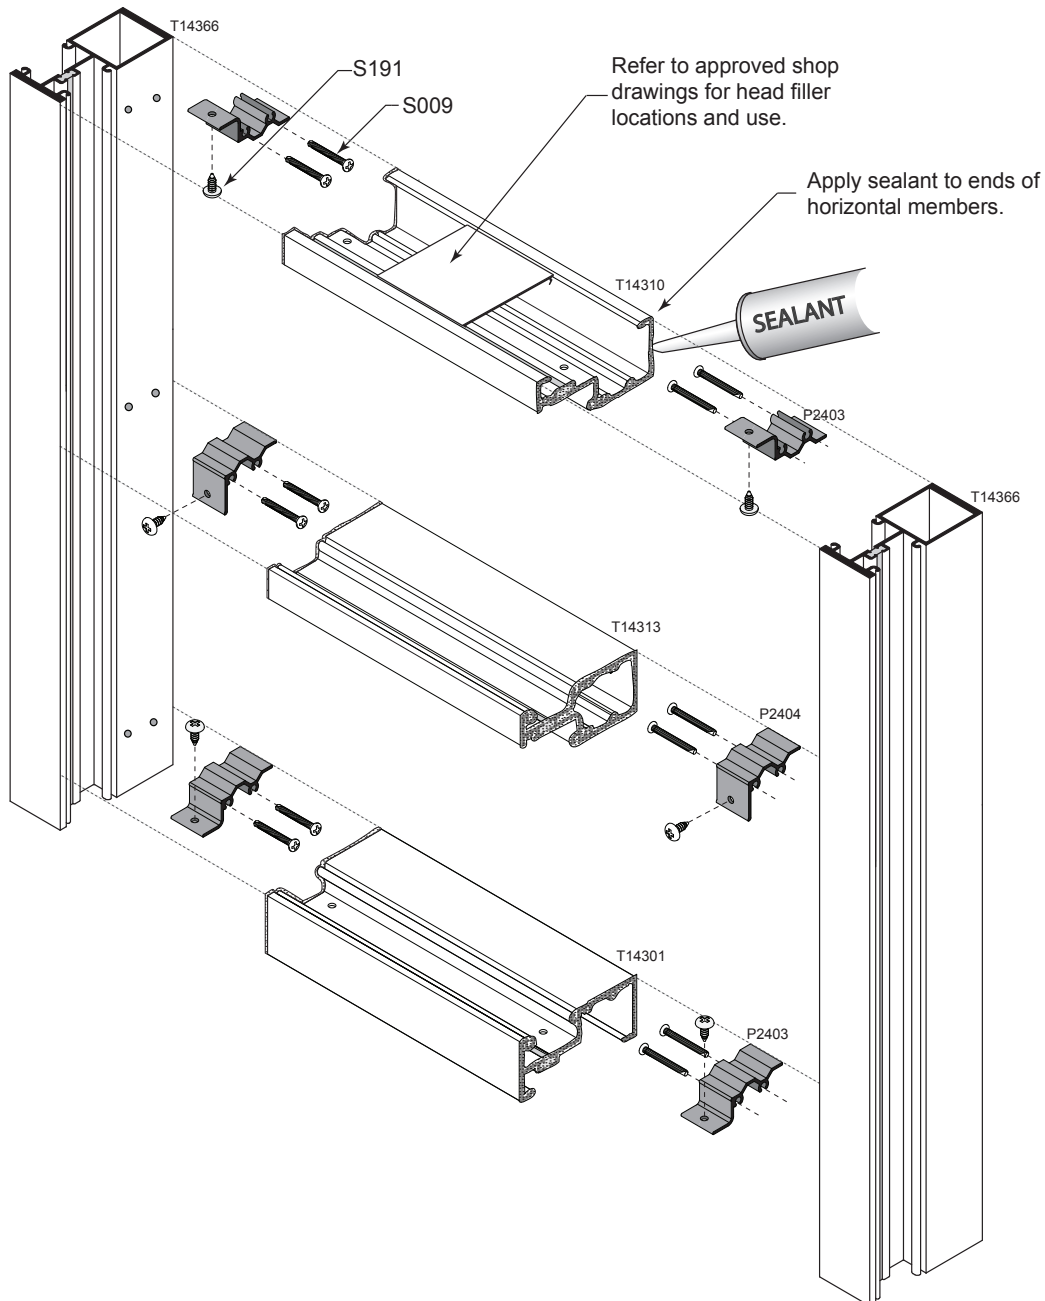

Fig. 32.1
- A. Install shear blocks onto verticals with S009 #10 x 1 3/4" PH screw as shown in **Fig. 32.1**.
- G. Secure head, horizontal, and sill members with (1) S191 #10 x 1/2" truss head screw. See **Fig. 32.1**.